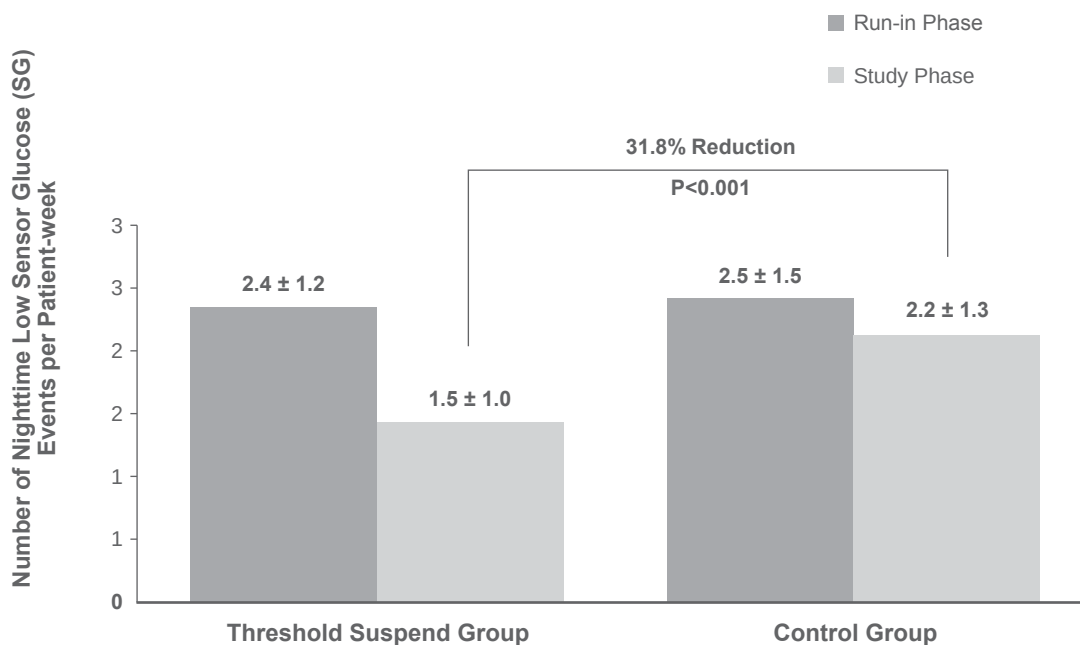

Figure 5 - Number of Nighttime Low Glucose Sensor Events per Patient-Week (mean $\pm$ SD).
- Nighttime Only: The rate of nighttime low sensor glucose events was 31.8% lower in the Threshold Suspend Group vs. the Control Group (1.5 vs. 2.2 low sensor glucose events per patient-week, $p < 0.001$, **Figure 5**).